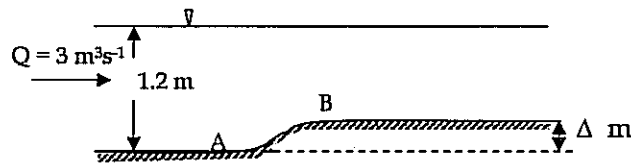

Figure 4a: Longitudinal view of channel
- 4) A rectangular open channel has a width of 2 m and carries a discharge of  $3 \text{ m}^3/\text{s}$  at a depth of 1.2 m. The channel undergoes a smooth transition between points A and B where the bed level of the channel is raised by  $\Delta$  m while the width of the channel is reduced by  $\Delta$  m at the same time. These changes are shown in Figures 4a and 4b.